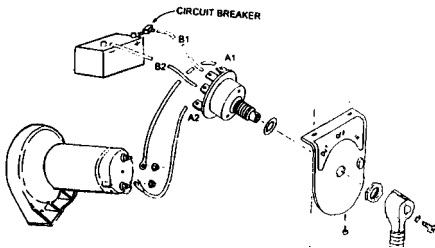

Figure 4
Superwinch offers a (3) Position Heavy Duty Rotary Switch Part Number 1591. The Superwinch switch has an internal shunt that provides dynamic braking to further assist the winch's brake. (See Figure 4)